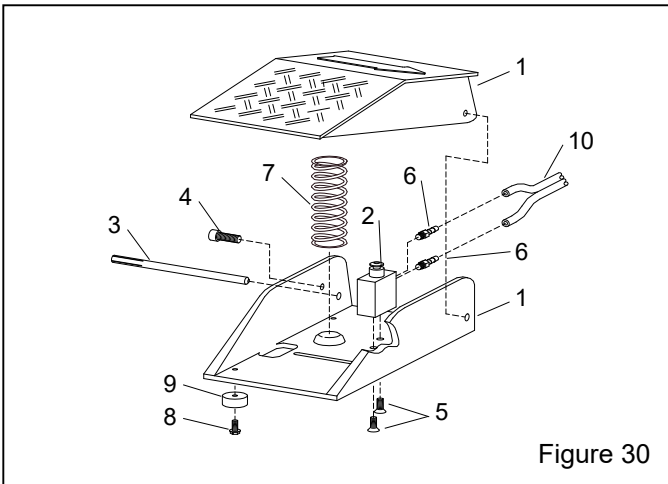

Figure 30
10.4 Foot Pedal Assembly – Figure 30